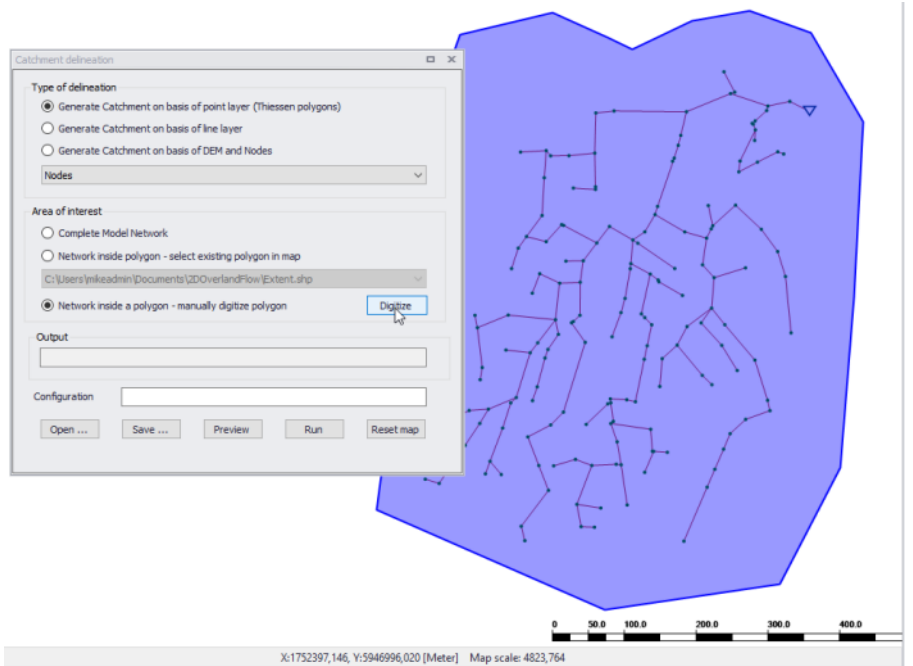

Figure 4.62 Digitizing the boundary on the Map via the 'Digitize' button
- **Network Inside Polygon - Manually Digitize Polygon.** Manually digitize the boundary on the map. If this method is selected, use the **Digitize** button to draw the boundary directly on the map, ending the digitization with a double-click. See Figure 4.62.